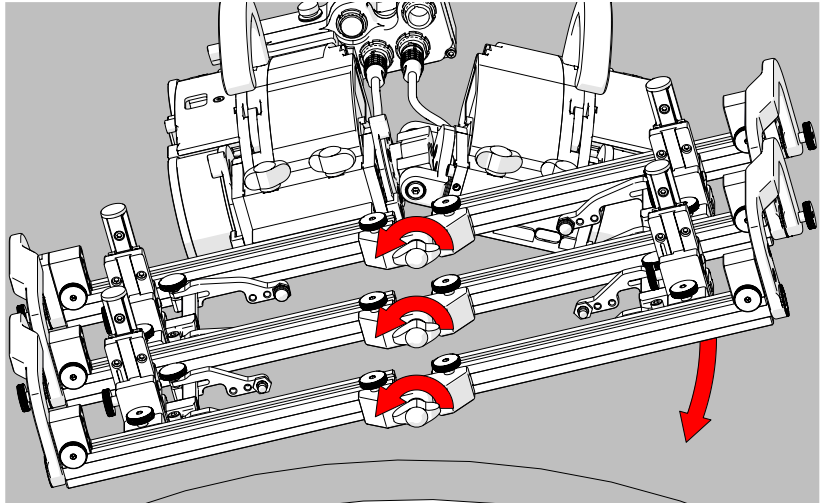

Fig. 246 - Loosen pivot wing knobs
1. Loosen the pivot wing knobs at the centre of the frame system (Fig. 246). Lower the left side of the frame system to align with the tangent of the scan surface. Tighten the pivot wing knobs.